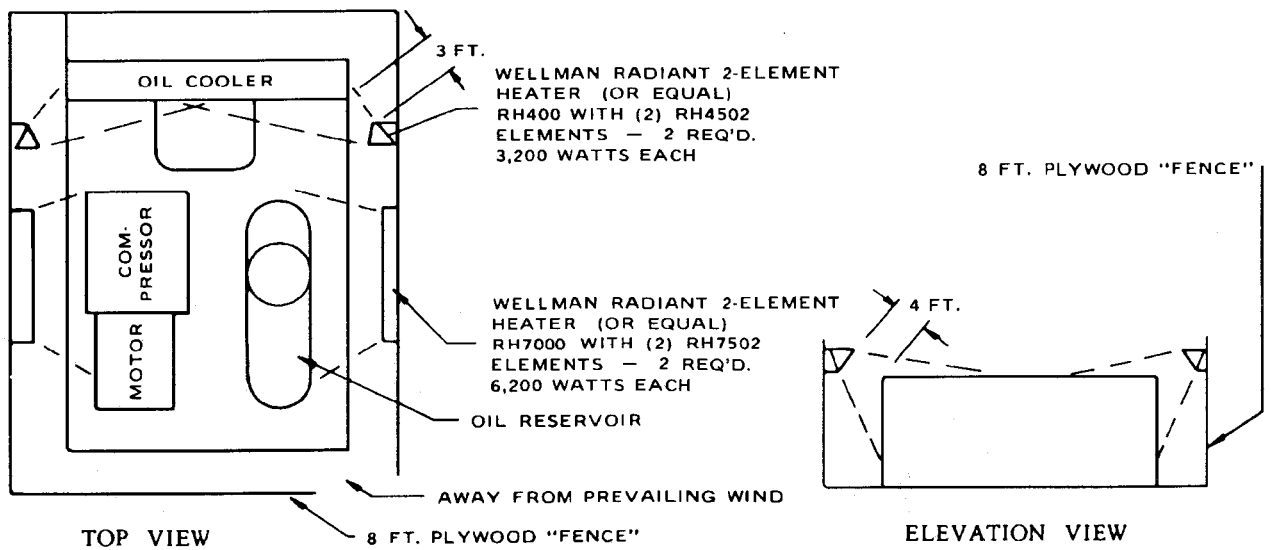

FIGURE 2-5 - COLD WEATHER INSTALLATION
4. Some means of providing heat to the oil reservoir and cooler during shutdown should be provided. There are various methods to accomplish this, but since openings are not provided for sump heaters, the use of radiant heaters is recommended. The heaters should be sized to provide at least a +10° F. environment for the coolers, motor, and sump. Figure 2-5, previous page, shows how these might be located in a typical installation and sizes required.